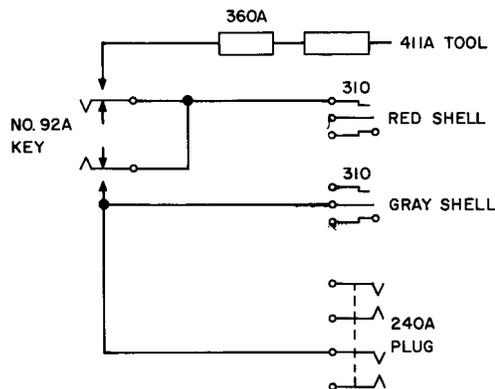

Fig. 1—
**2.12** Test cord, shown in Fig. 1, to be made up locally, consisting of one 92A key, one 893 cord (1W13B cord) with one 360 tool removed, one W1W cord (1W17A cord) with the 59 cord tip removed, one W1B cord (1W5B cord) with the KS-6780 clip removed, and one 411A tool (for connecting ground to A relay and to the commutator segment of the trunk finder).
12 Insert red-shelled plug of special test cord shown in Fig. 1 into 48-volt battery supply jack.